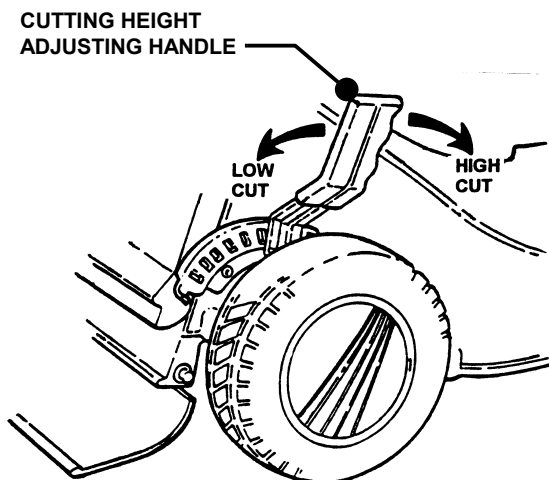

FIGURE 2.7
1. Pull the cutting height adjusting handle outward and move to desired cutting height. See Figure 2.7.